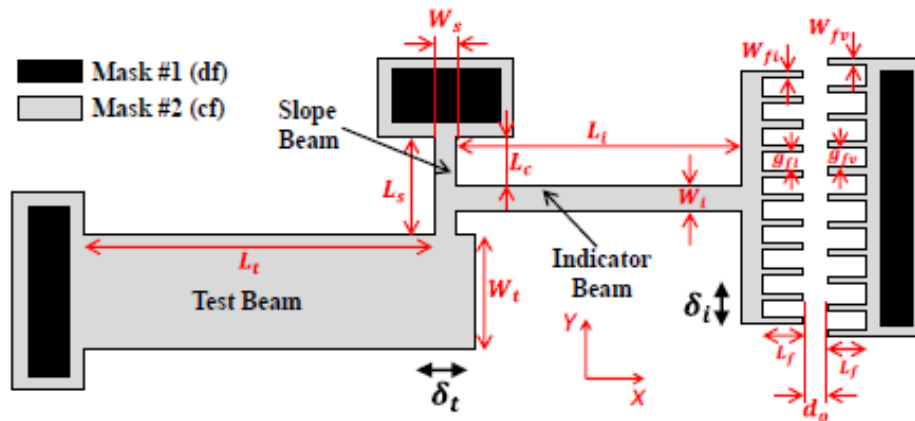

Fig. PS3.2
2. A useful diagnostic structure is the Vernier stress gauge as shown in Fig. PS3.2, which mechanically amplifies the strain caused by residual stress in a film and is capable of measuring both tensile and compressive stress. Here, the residual stress generates a small displacement δ_t in the ‘test beam’. This displacement in turn generates an angular deflection along the ‘slope beam’, which then generates a much larger displacement δ_i at the vernier that can be visually read via optical microscope. By using this structure, the strain in the ‘test beam’ is effectively amplified to a larger displacement at the vernier site.